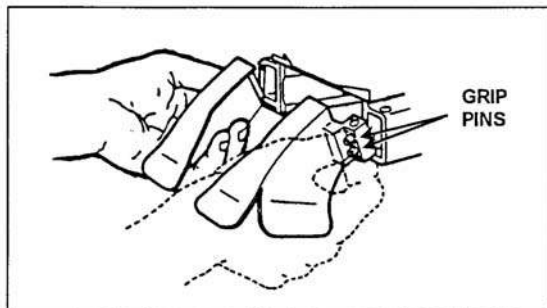

Figure 071-030-0001-1. Removal of feed throat assembly
- a. Remove the feed throat assembly (figure 071-030-0001-1). Squeeze the two sets of grip pins together and pull them straight out.